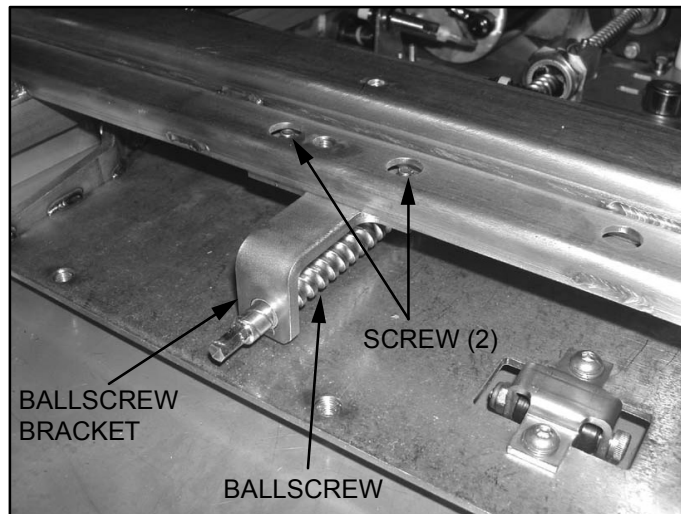

FIGURE 4-15: BALLSCREW BRACKET
- f. Refer to **Figure 4-15**. Remove and retain two screws that attach the ballscrew bracket to the enclosure support beam.
d. Refer to **Figure 4-15**. Install two screws that attach the ballscrew bracket to the enclosure support beam.
- i. Refer to **Figure 4-15**. Install two screws that attach the ballscrew bracket to the enclosure support beam.
- f. Refer to **Figure 4-15**. Remove and retain two screws that attach the ballscrew bracket to the enclosure support beam. Retain ballscrew bracket.
- e. Refer to **Figure 4-15**. Install two screws that attach the ballscrew bracket to the enclosure support beam.